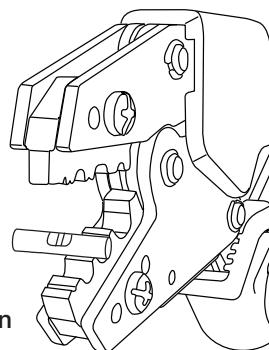

Figure 3
2. Splices requires two crimps. Position splice in proper nest as shown in Figure 3 with window facing indentor.